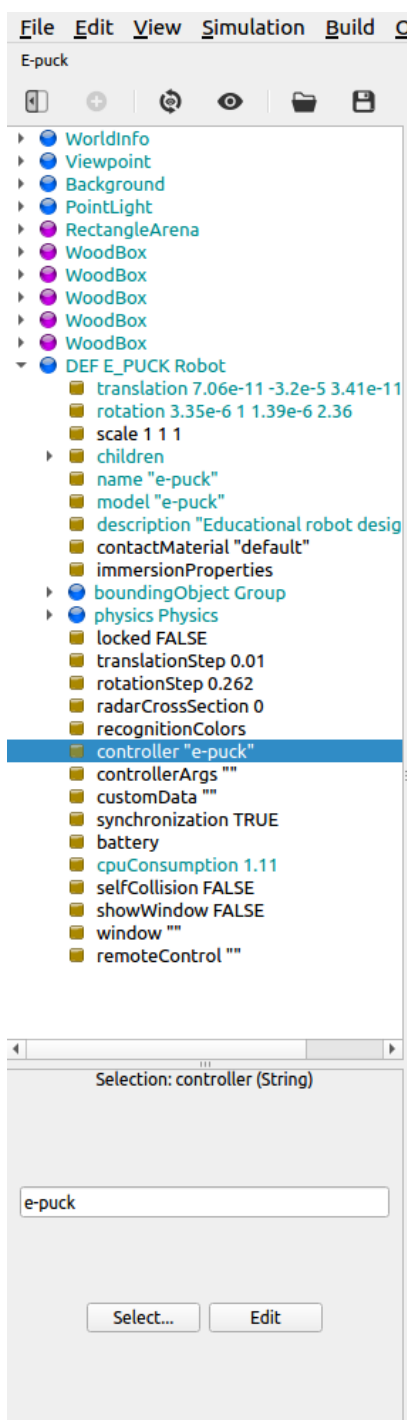

Figure 3- Locating the robot controller in e-puck scene tree.
4. By clicking on the 'DEF E\_PUCK Robot' in the Scene Tree, positioning yourself on the *controller* field and clicking Edit, the source code of the controller that the e-puck runs will be displayed in the Text Editor. See Figure 3 for more information.